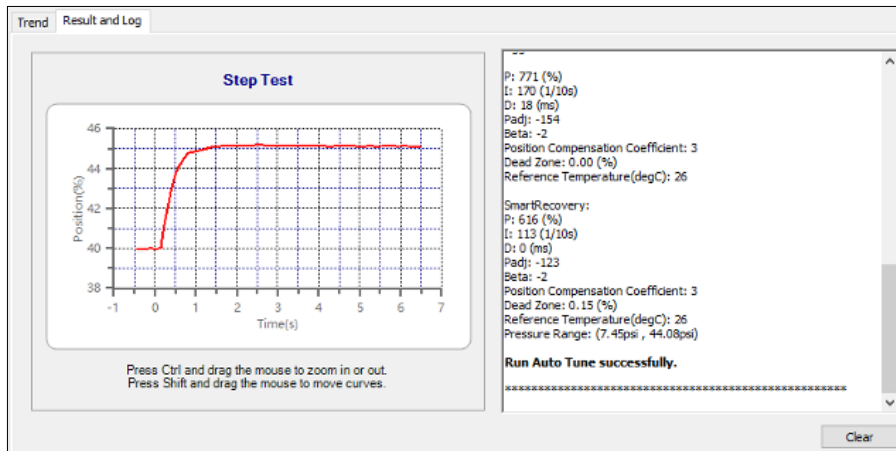

Figure 57 Auto Tune Success
6. Once complete the *Results & Log* appears (Figure 57).
5. Once complete the *Results & Log* appears (Figure 57).